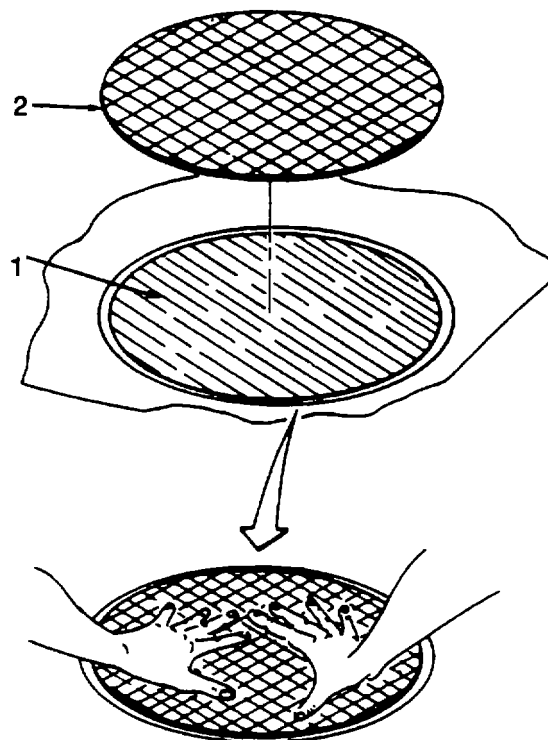

Figure 2-34. Centering Wet Patch
(m) Prepare a new batch of adhesive (item 1, table 2-11) and carefully apply a uniform (liberal/heavy) coat of repair adhesive (1, figure 2-34) over previous coats of barrier adhesive. Smooth surface with gloved fingers wet with acetone (item 3, table 2-11) and remove any excess adhesive from unbuffed area with a dean cloth (item 16, table 2-11) and acetone (item 3, table 2-11). Wear gloves (item 4, table 2-11).